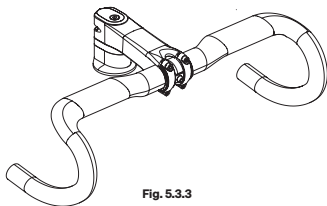

Fig. 5.3.3
- 3 • Secure the faceplate on the stem making sure to keep the aluminium nut correctly positioned between the 2-piece faceplate (Fig. 5.3.3);